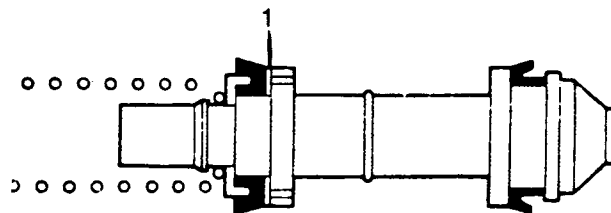

Fig K1.26
- (2) Refer to Fig K1.26. Fit the washer (1), new recuperating seal and spring to the secondary plunger.